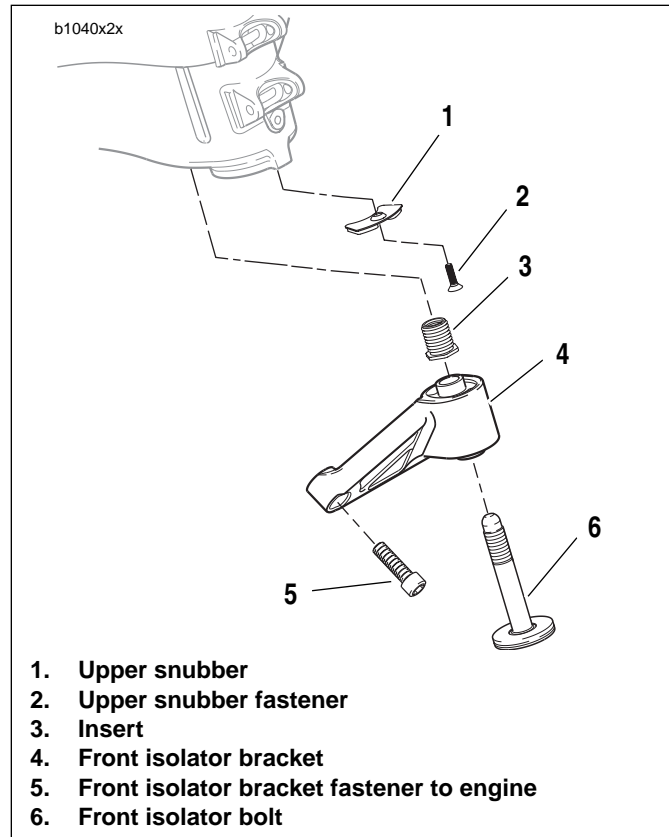

Figure 2-88. Front Isolator
3. See Figure 2-88. Remove front isolator bolt (6).
4. Remove front isolator mount fasteners (5).
5. Remove front isolator bracket (4).
6. Remove upper snubber fastener (2) and remove upper snubber (1).
See Figure 2-88. If the threaded insert (3) is damaged and needs to be replaced, install new insert with **LOCTITE 272** and tighten to 59-61 ft-lbs (80-82.7 Nm).
7. See Figure 2-88. Install upper snubber (1) tightening snubber fastener (2) to 12-36 in-lbs (1-4 Nm).
8. Loosely install front isolator bracket (4) with front isolator bolt (6).
9. See Figure 2-88. Tighten fasteners (5) to 49-51 ft-lbs (66-69 Nm).